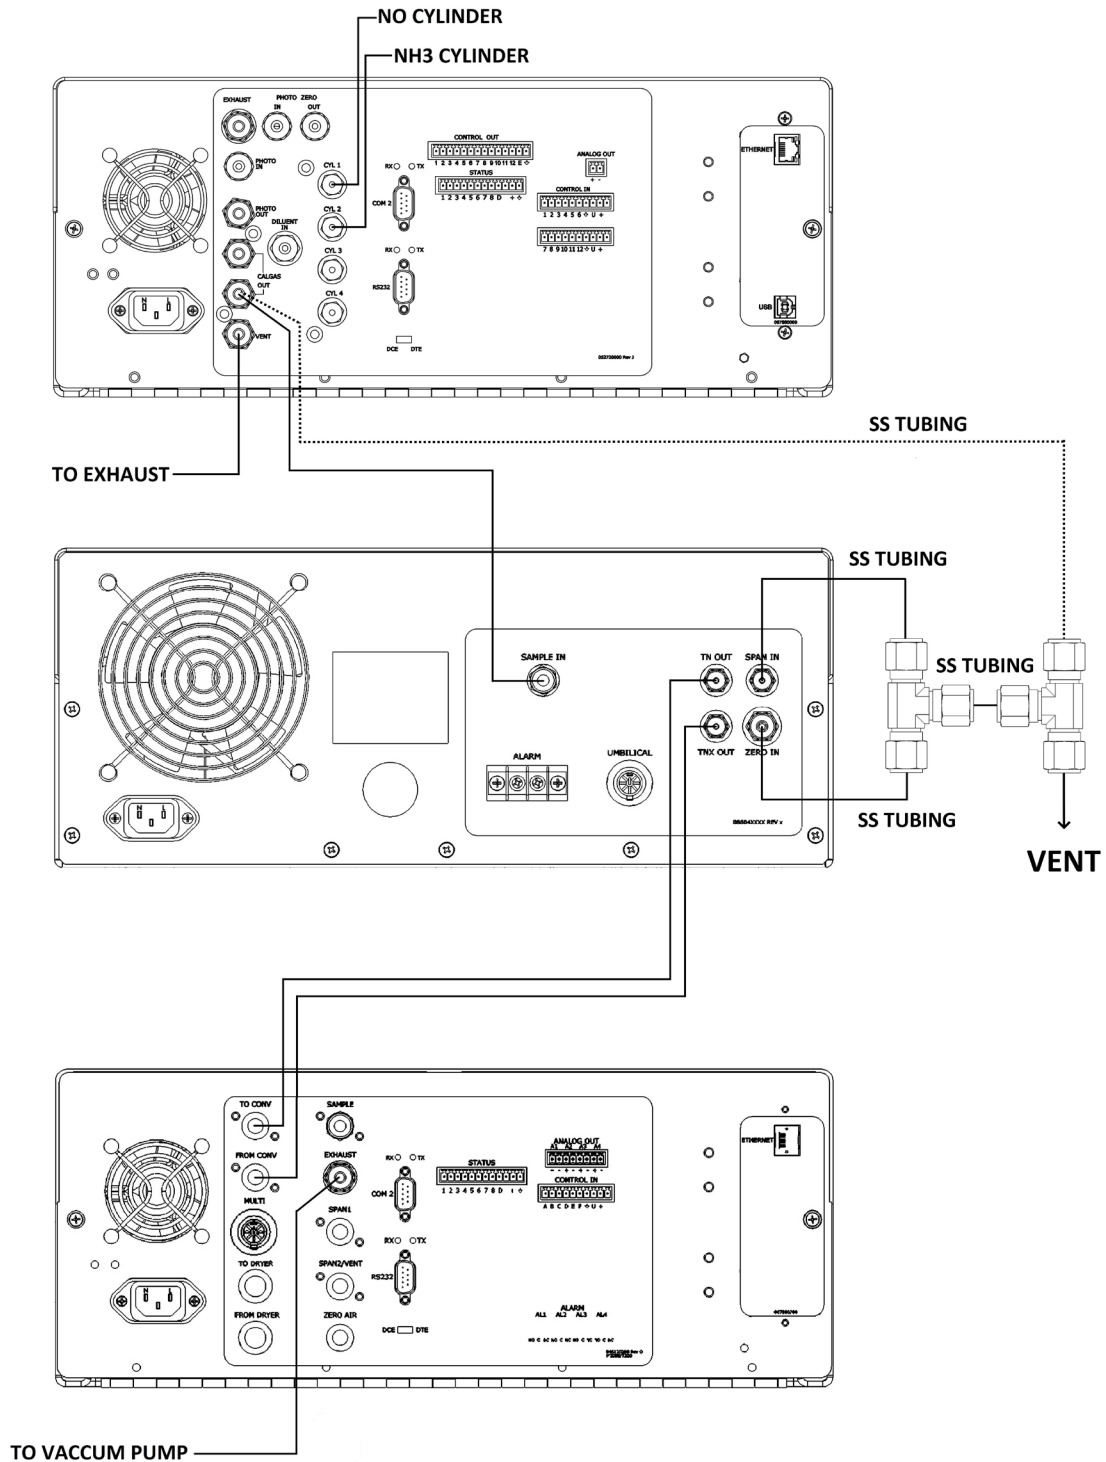

Figure 1-1. Pneumatic Connections (bottom to top) T201>501>External Calibrator Option (ECO)
- Figure 1-1 shows the T201 with ECO.
- Assemble the T201 analyzer according to the pneumatic configurations outlined in Figure 1-1. Remember: **DO NOT** pressurize the sample, span or zero ports (Zero/Span valves are optional) during calibration. Allow the analyzer to pull the gas through the system using the vacuum pump.